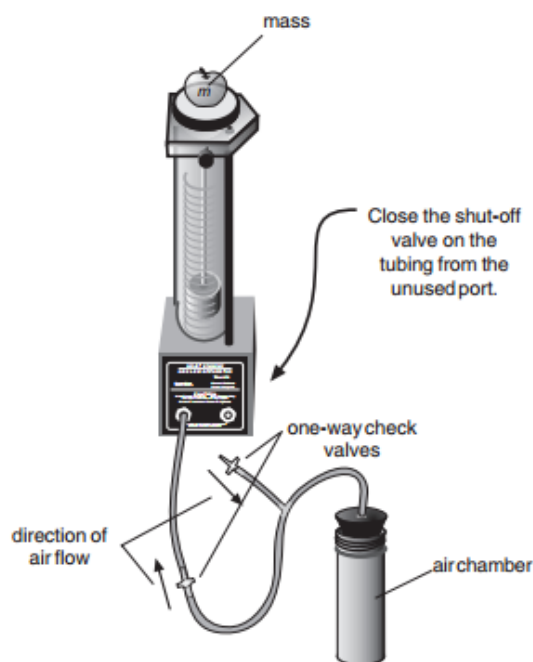

Figure 1.8: Experiment 2 apparatus.
1. Connect the heat engine to the air chamber as shown in figure 1.8. Note the two